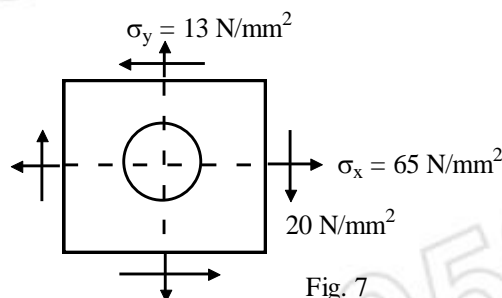

Fig. 7
11. A mild steel plate is stressed as shown in fig. 7 Before stressing, a circle of 300mm dia. is drawn on the plate. Determine the lengths & directions of the major & minor axes of the ellipse into which the circle deforms after stressing. Poisson's ratio = 0.3, modulus of elasticity = 200kN/mm^2 . 14